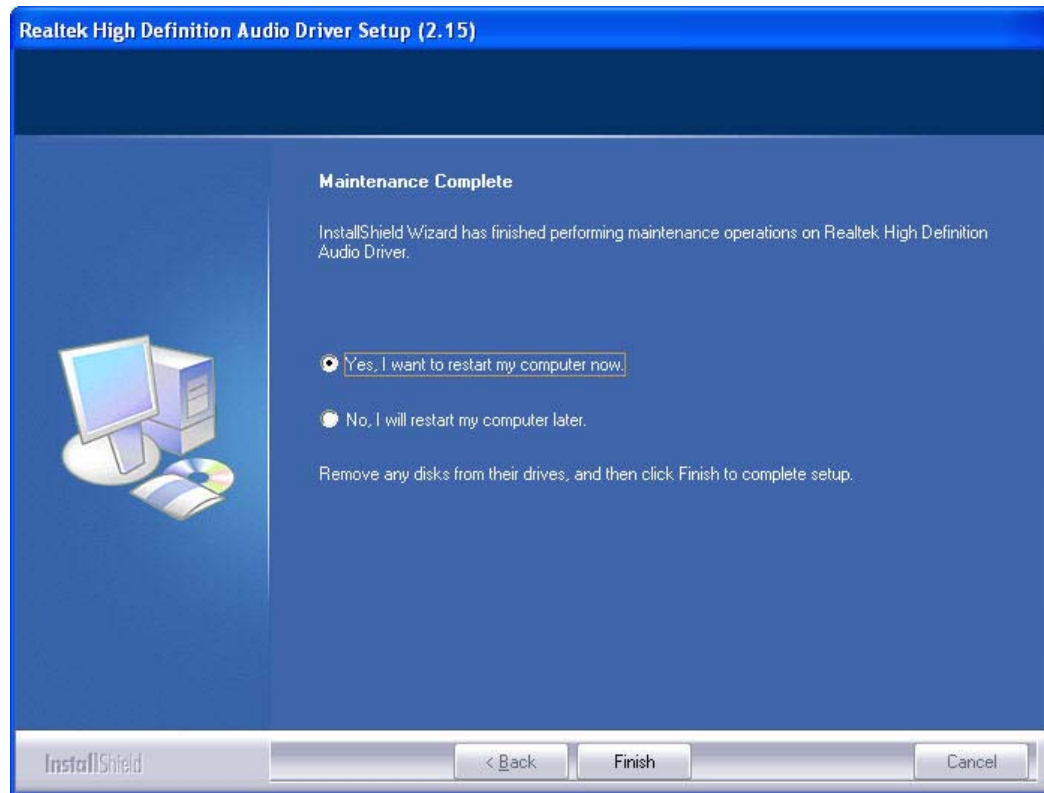

Figure 7-26: HD Audio Driver Installation Complete
Step 7: After the driver installation process is complete, a confirmation screen shown in **Figure 7-26** appears.
Step 8: The confirmation screen shown in **Figure 7-26** allows you to restart the computer immediately after the installation is complete or to restart the computer later. For the settings to take effect the computer must be restarted. Once you have decided when to restart the computer, click the **“FINISH”** button.